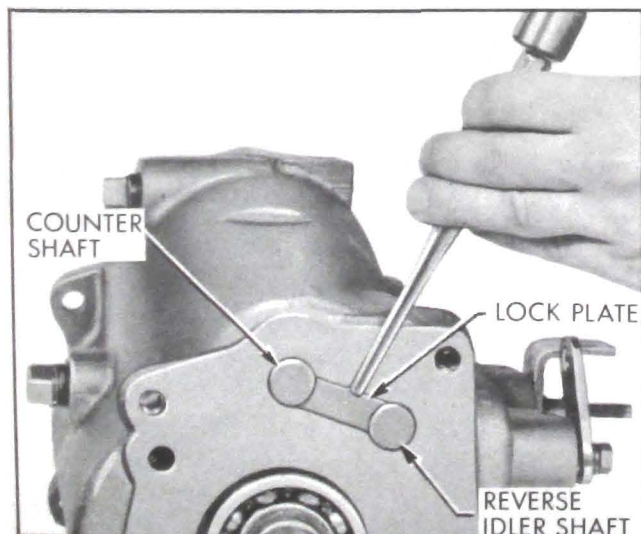

Figure 4-14—Removing Lock Plate
5. Drive countershaft and reverse idler shaft lock plate from position. See Figure 4-14.